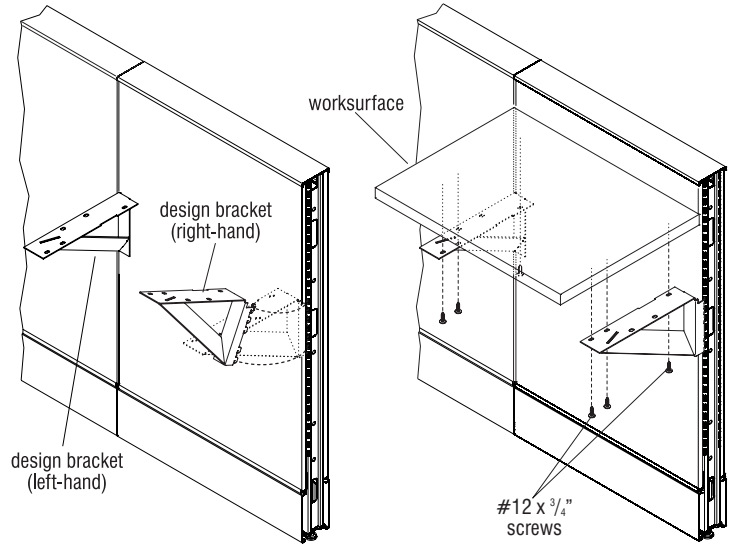

Figure 7 - Design Bracket & Worksurface Installation
1. Locate and identify right- and left-hand design brackets to be used. A right design bracket is used on the right side of a worksurface as you face the panel and the left-handed bracket is at the left. The outer face of an installed design bracket should appear flush with the edge of the panel surface and the mounting flange must face inward (Figure 7).
3. To install design bracket, first rotate the front of the bracket up as illustrated and insert the top, anti-dislodge tooth into the panel module slotting at the appropriate height. Push up when the top tooth is engaged, then rotate the bottom of the bracket down, engaging all remaining bracket teeth into the slotting. Ensure that all teeth are inserted firmly, then press bracket down to fully engage all teeth. If necessary, use a rubber mallet to gently tap the top of the bracket to firmly seat the teeth. Repeat the steps above for the second design bracket to be installed (Figure 7).
Note: When worksurfaces are installed adjacent to each other, right- and left-hand design brackets will be installed side-to-side with the flat faces mated (Figure 7).
5. Carefully place worksurface onto installed design brackets and align mounting holes of brackets to pre-drilled holes in underside of worksurface. Secure using two #12 x $\frac{3}{4}$ " screws per bracket. Take care to not over-tighten the screws (Figures 7 & 8).